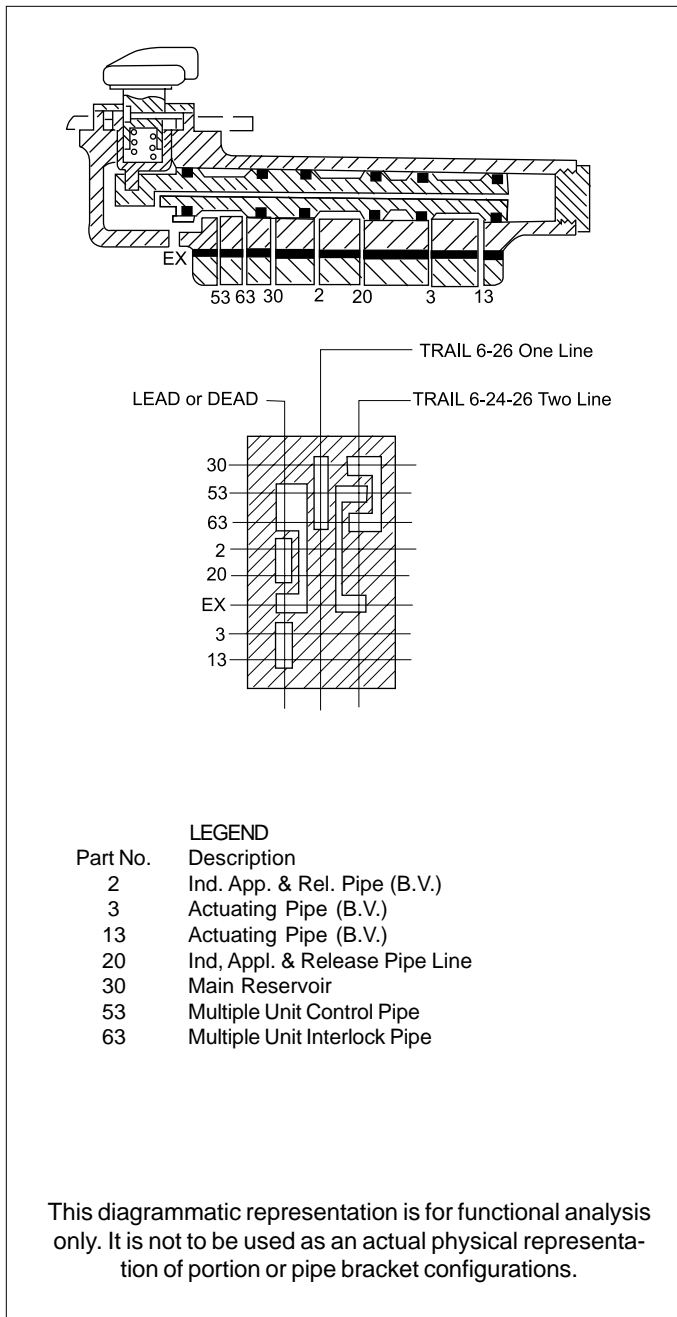

Figure 2 - Diagrammatic View
The Pipe Bracket is semi-permanently mounted on the vehicle. All pipe connections are made directly to the Pipe Bracket. Seven 3/8"-18 NPT pipe taps are provided for pipe connections. The port numbers are indicated on the pipe bracket and are identified in the chart shown in Figure 2.
2.0 OPERATION (Figure 2)